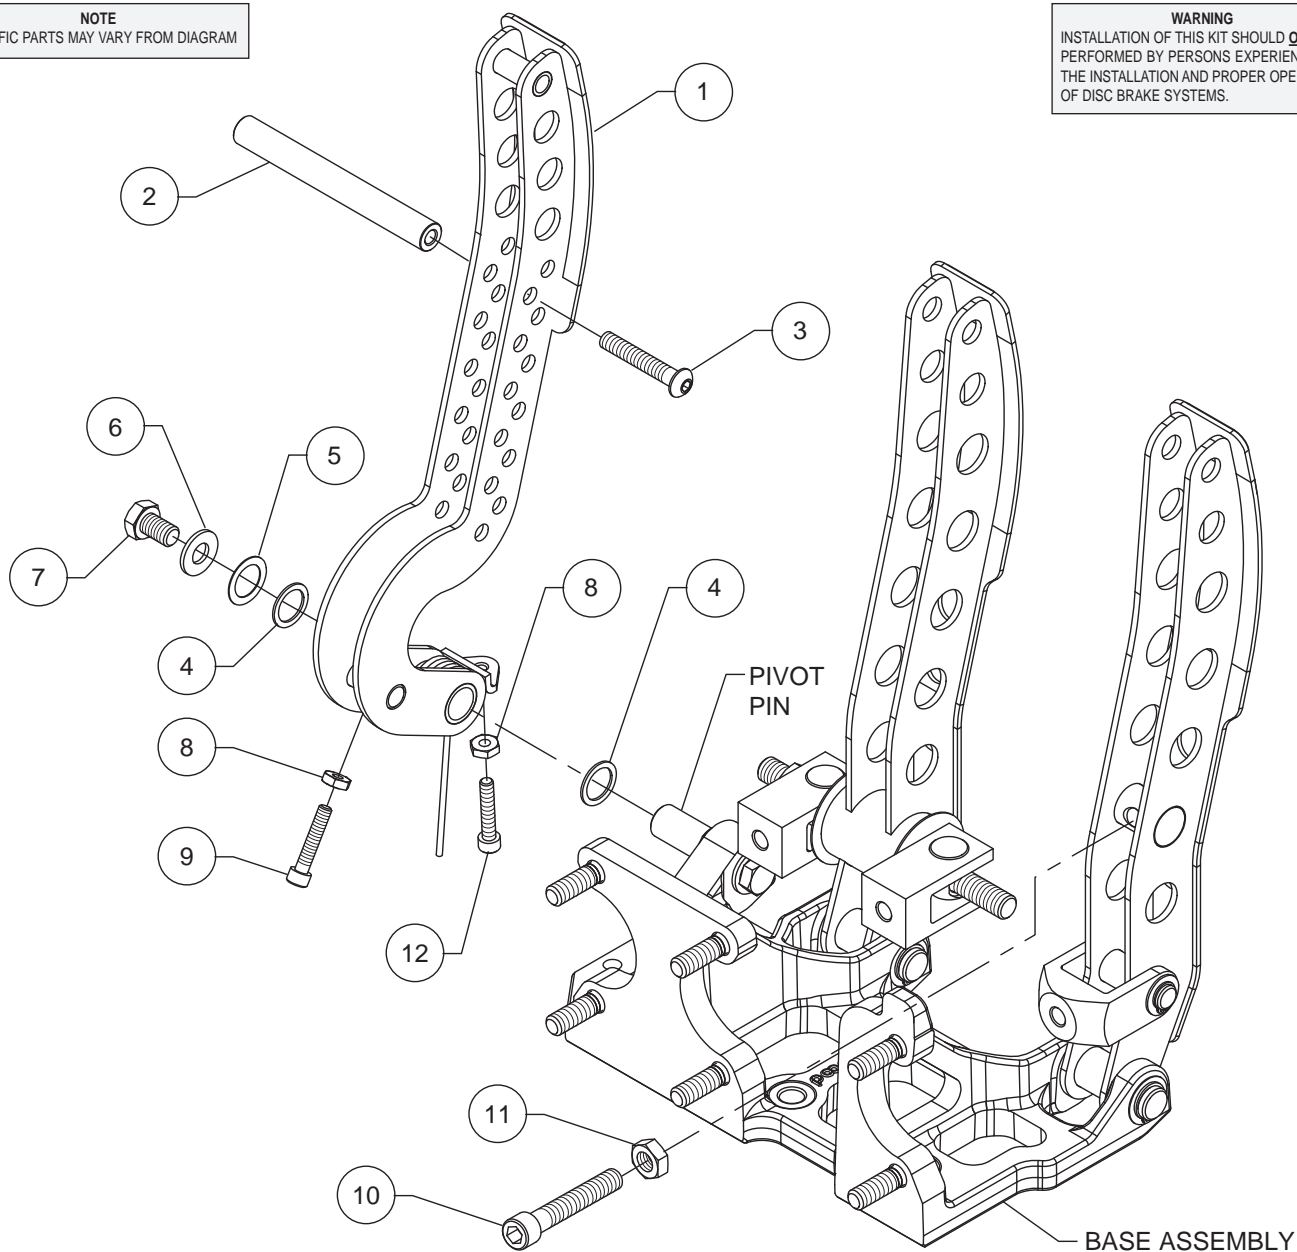
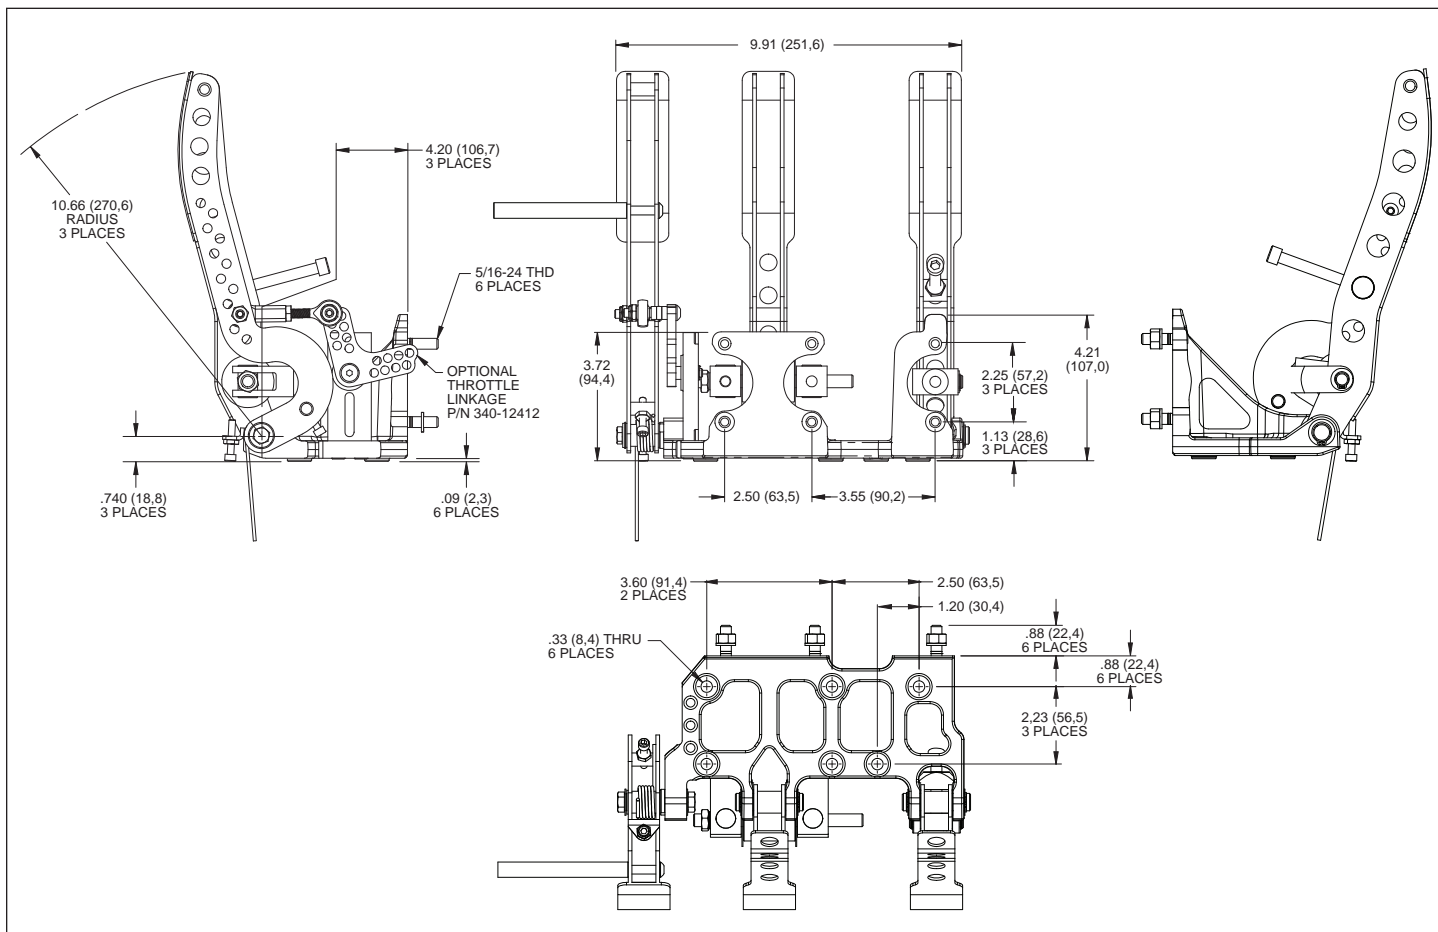

Figure 1. Typical Installation Configuration, For Rear Engine Cars, Part Number 340-12410
Figure 3. Floor Mount Triple Pedal Assembly, Physical Dimensions (shown with optional throttle assembly)
Assembly Instructions • Part Number 340-12410 (numbers in parenthesis refer to the parts list and Figure 1 on page 3):
- Install the throttle pedal (1) to the base assembly by sliding shim (4) and the pedal onto the pivot pin. Secure using one .035 thick shim (4), one .015 shim (5), washer (6) and bolt (7) as shown in Figure 1. Temporarily tighten the bolt to 18 ft-lbs. Check that the pedal moves freely without binding. If too tight or too loose, add or subtract shims (5) to obtain the correct pedal movement. After the pedal adjustment is finalized, remove the bolt, apply red *Loctite*® 271 to the threads and torque to 18 ft-lbs.
- Screw the throttle pedal stop bolts (9) into nuts (8) and then into the throttle pedal (1), front and rear. **NOTE:** Final adjustment of the stop bolts will be performed after pedal installation in vehicle.
- Screw the clutch stop bolt (10) into nut (11) and into the clutch pedal. **NOTE:** Final adjustment of stop bolt will be performed after pedal installation in vehicle.
- NOTE:** For rear engine installation only. Install the rear throttle pull rod (2) to the throttle pedal (1) using bolt (3).
- Refer to page 5 and Figure 3 for vehicle installation instructions and mounting dimensions.
- Mount the final pedal assembly to the floor using six .33 (8,4) through holes as shown in Figure 3. Attach the pedal assembly to sturdy beams or plates with six 5/16 inch bolts. Pedal assembly must be rigidly attached to frame and not deflect under heavy pedal forces. **NOTE:** Pedals must be free from obstructions over their entire range of motion. Allow enough space so balance bar adjustments can be made and master cylinders are accessible.